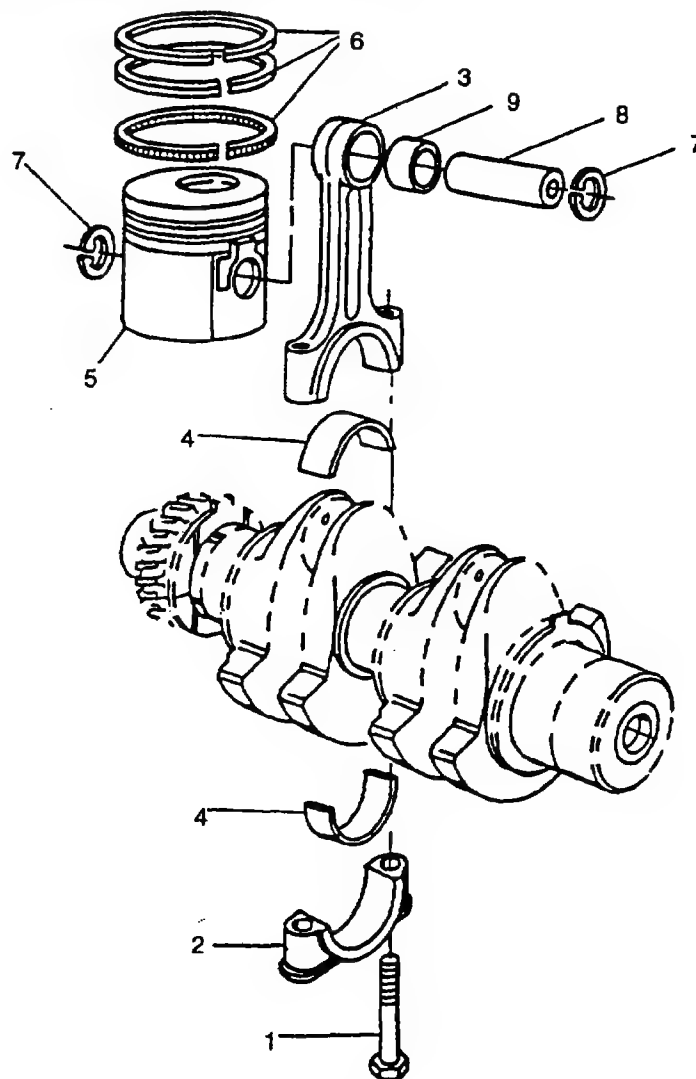

FIGURE 3-36. Piston and Connecting Rod Assemblies
- d. Rotate crankshaft as necessary to gain access to connecting rod bearing cap capscrews (1) FIGURE 3-36).
- b. Clean piston (5, FIGURE 3-36) by removing all traces of carbon from both upper and underside of crown and ring grooves.
- c. Check for correct gap clearance, refer to TABLE 3-6, with piston rings (6) in an unworn section of cylinder barrel.
- d. Clean connecting rod (3).
- e. Check bushing (9) for wear. Replace if worn.
Lay piston rings (6, FIGURE 3-36) out in order of removal to aid in installation.
If necessary, separate each bearing cap (2, **FIGURE 3-36**) and connecting rod (3) as it is installed. Do not mix bearing caps and connecting rods.
- b. If damaged, Install new connecting rod big end bearing shells (4 **FIGURE 3-36**) ensuring they are correctly located in both connecting rod and cap.
- c. Stagger piston ring (6) gaps so each ring gap is set at 90 degrees to adjacent rings and 45 degrees from piston pin (8) axis.